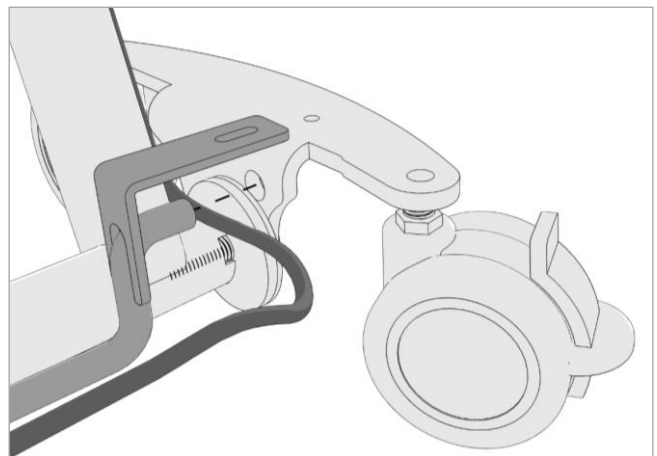
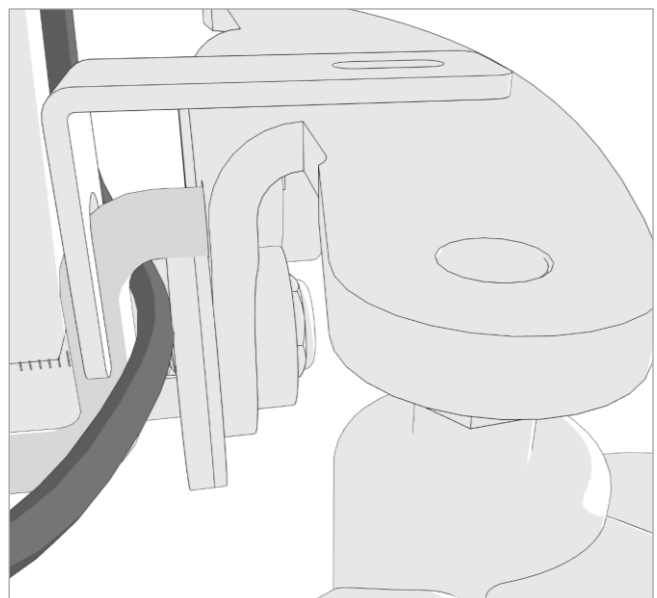

Figure 8.13
Figure 8.14
3. Insert the Wall Bar into the fixing hole in the Caster bracket. Ensuring the Mains cable is routed underneath the locating pin as illustrated in Figure 8.13 and Figure 8.14.